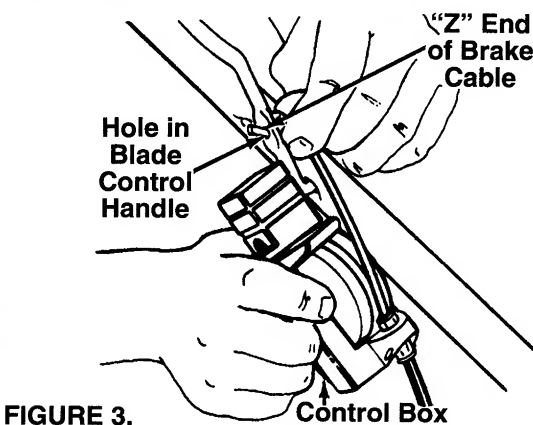

FIGURE 3.
- ← 3. Holding the control box near the left side of the upper handle (control box must be inside the handle), hook the "Z" end of the brake cable into the control handle from the outside to the inside. See figure 3.